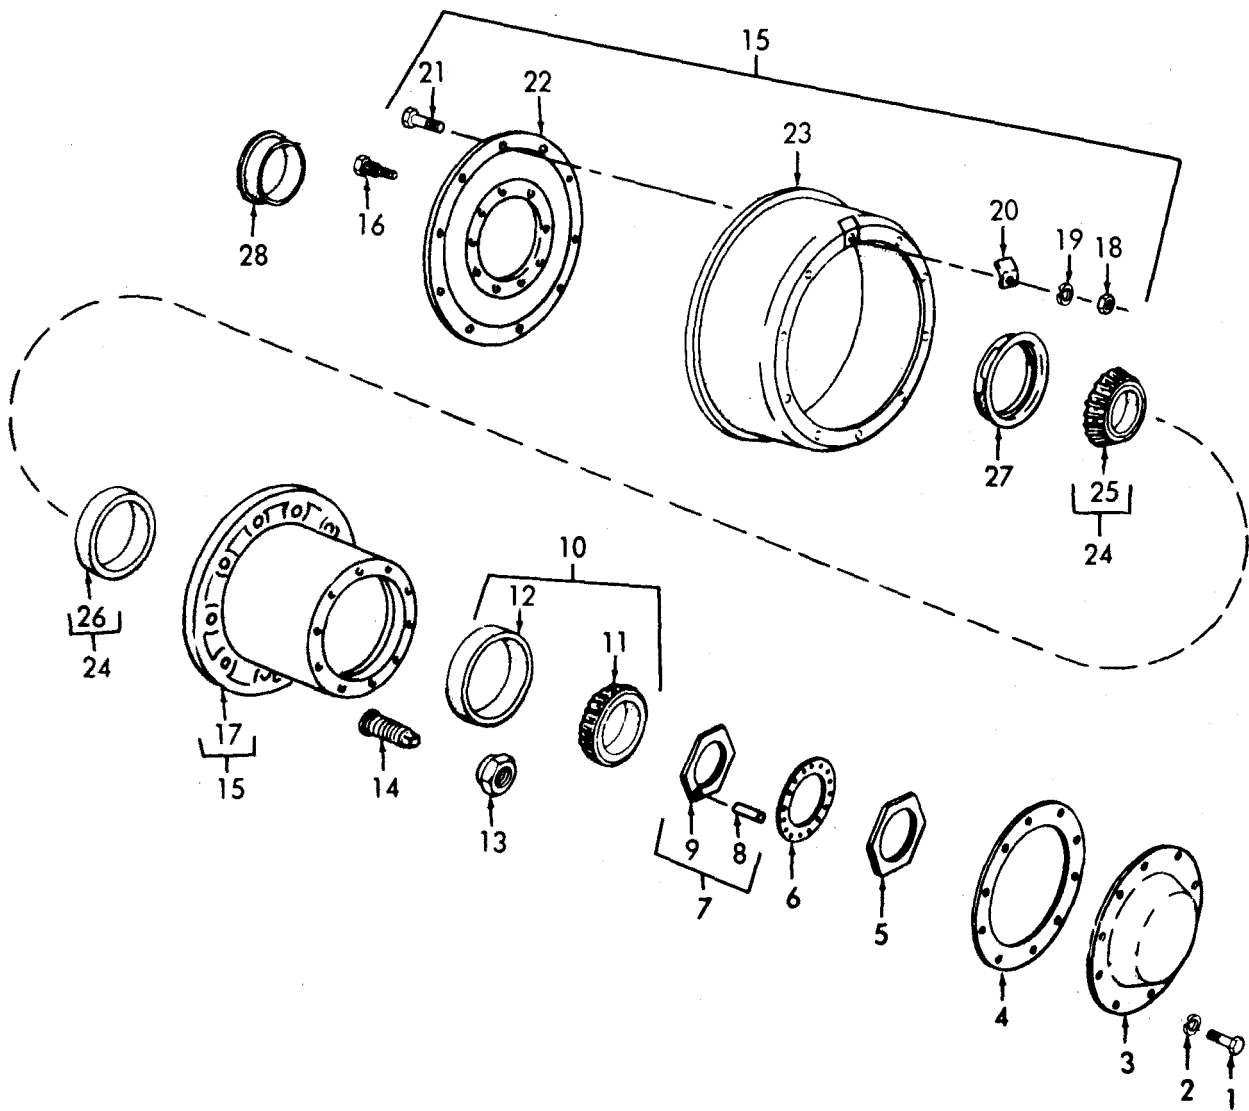
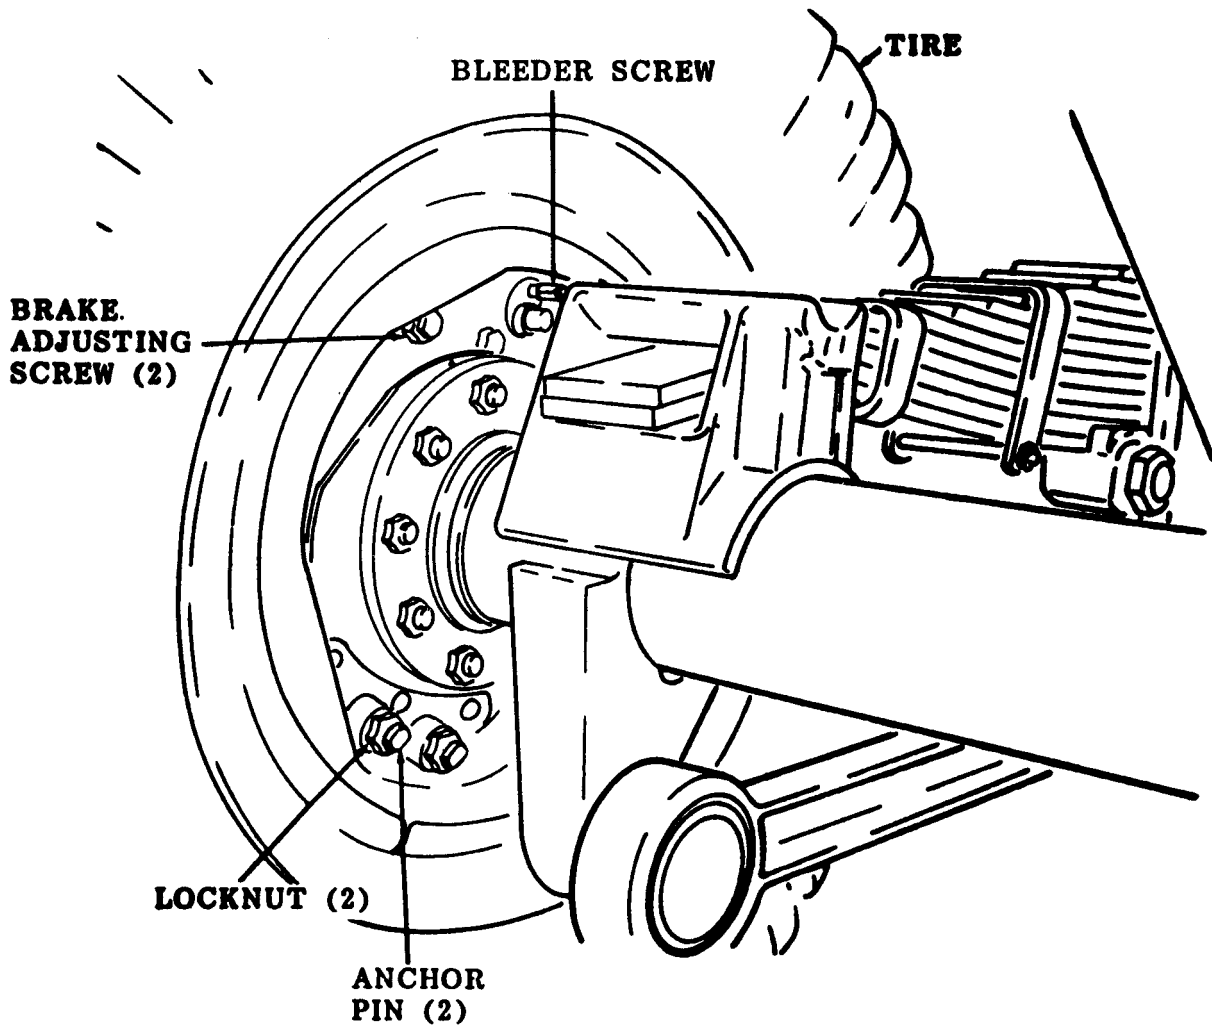

Figure 19-2. Hub and Drum.
Figure 19-3. Brake Adjustment.
- (1) Remove the wheels.
- (2) Disconnect air lines from the towing vehicle and open draincock on the trailer air reservoir tank to be sure brakes are fully released with no contact between the brake shoes and the brake drum.
- (3) Remove the hub, brake drum, and bearings, as illustrated in figure 19-2.
## LEGEND FOR FIGURE 19-2:
- (1) Remove the hub cap (3, figure 19-2), gasket (4), nut (5), and washer (6).
- (2) Use a wrench and tighten the adjusting nut (7), while turning hub and brake drum, until hub and brake drum bind. Then back off adjusting nut slightly until hub and brake drum turn freely.
- (3) Place the washer (6) on the axle shaft next to the adjusting nut (7). If one of the holes on the washer is not aligned with the pin on the inner adjusting nut, remove the washer and reinsert it in the inverted position. If a hole still does not align with the pin, the inner adjusting nut (7) must be turned counterclockwise so that the nearest hole in the washer is lined up. Then, install the adjustment locking nut (5), gasket (4), and cap (3), and secure with six washers (2), and screws (1).
- (4) Adjust other wheel bearings in the same manner.
- c. Turn the adjusting screws (fig. 19-3) to bring lining into contact with the drum and rotate the anchor pin sufficiently to relieve drag. Repeat until additional rotation of anchor pin will no longer relieve drag.